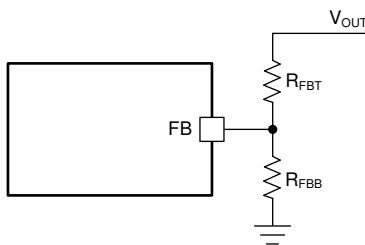

**Figure 8-1. SW Node and Inductor Current Waveforms in Continuous Conduction Mode (CCM)**
The following operating description of the LMR514x0 refers to Functional Block Diagram and to the waveforms in Figure 8-1. The LMR514x0 is a step-down synchronous buck converter with integrated high-side (HS) and low-side (LS) switches (synchronous rectifier). The LMR514x0 supplies a regulated output voltage by turning on the high-side and low-side NMOS switches with controlled duty cycle. During high-side switch ON time, the SW pin voltage swings up to approximately  $V_{IN}$ , and the inductor current,  $i_L$ , increases with linear slope  $(V_{IN} - V_{OUT}) / L$ . When the high-side switch is turned off by the control logic, the low-side switch is turned on after an anti-shoot-through dead time. Inductor current discharges through the low-side switch with a slope of  $-V_{OUT} / L$ . The control parameter of a buck converter is defined as Duty Cycle  $D = t_{ON} / T_{SW}$ , where  $t_{ON}$  is the high-side switch ON time and  $T_{SW}$  is the switching period. The converter control loop maintains a constant output voltage by adjusting the duty cycle D. In an ideal buck converter, where losses are ignored, D is proportional to the output voltage and inversely proportional to the input voltage:  $D = V_{OUT} / V_{IN}$ .